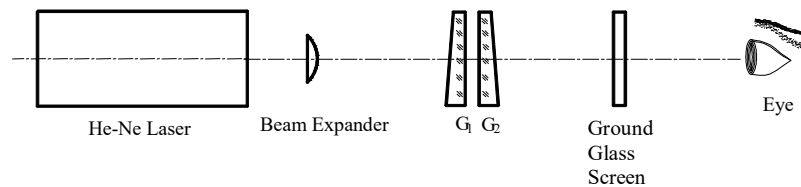

Figure 11 Diagram of the Fabry-Perot interferometer mode with ground glass screen mounted in extension arm
- 2) Place a beam expander into the light path to create an area light source, so that the observer can observe a series of multi-beam interference rings as shown schematically in Figure 11.